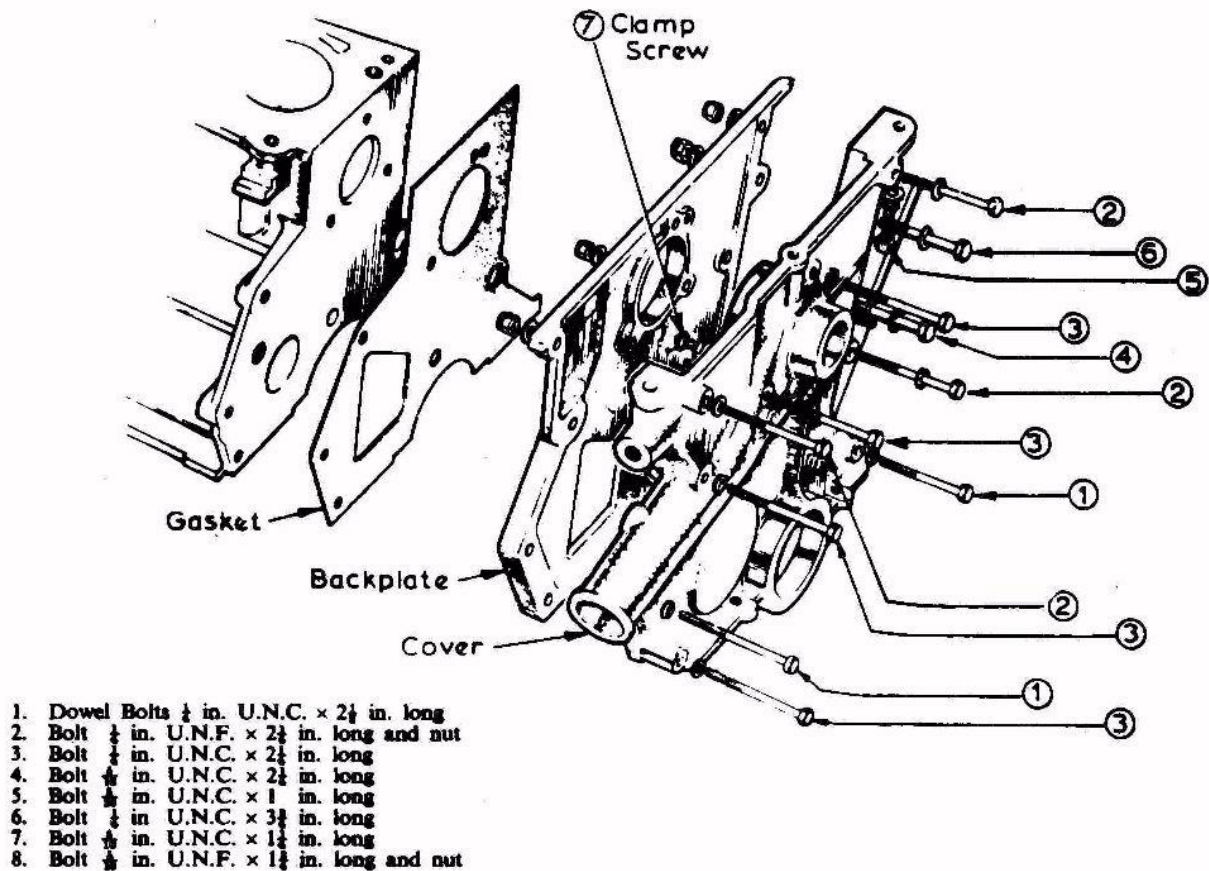

Fig. 19. TIMING CHEST BOLTS
1. The backplate is fitted with a DRY paper gasket to the cylinder block and retained by the single clamp screw ('7' of Fig.19). BEFORE tightening, assemble front cover to the backplate, locating both the water pump insert in the cover and the oil seal on the crankshaft. Move timing cover as an assembly including the backplate and its gasket, to ensure a maximum step between oil sump face on timing cover and cylinder block oil sump face and also between top faces of timing cover and backplate. This step should not exceed .25 mm. (.010 in.).
4. Apply jointing compound (Part No. A036 E 6027) to the cover joint faces and fit the cover. It is important that the cover is correctly aligned and that the bolts are fitted to their correct locations (see Fig. 19). Tighten the bolts to the specified torque loadings given in 'TECHNICAL DATA'.